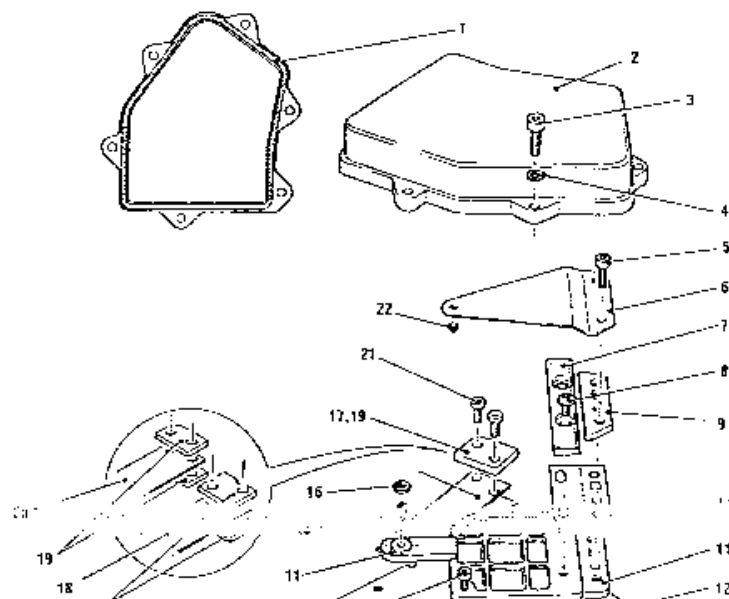

Fig. 10.13 Thermostat Assembly
10.15 Thermostat Assembly (Fig. 10.13)